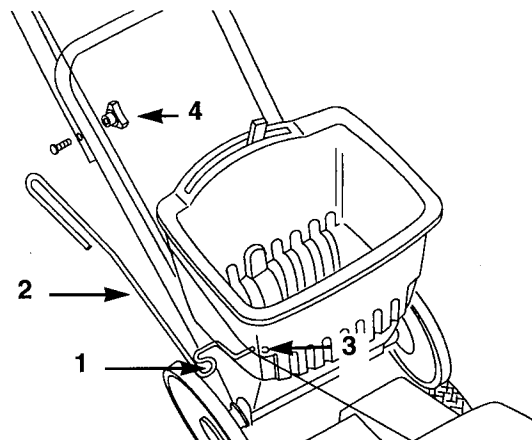

Figure 93
3. Remove the handle knob and bolt (Fig. 93) from the right side of the mower.
- A. Insert the mounting rod into the hole on the right side of the hopper (Fig. 93).
- B. Put the engine rope into the curve in the mounting rod (Fig. 93).
2. Remove the mounting rod and bracket from the handle and the hopper (Fig. 93). Reinstall the handle knob and bolt.